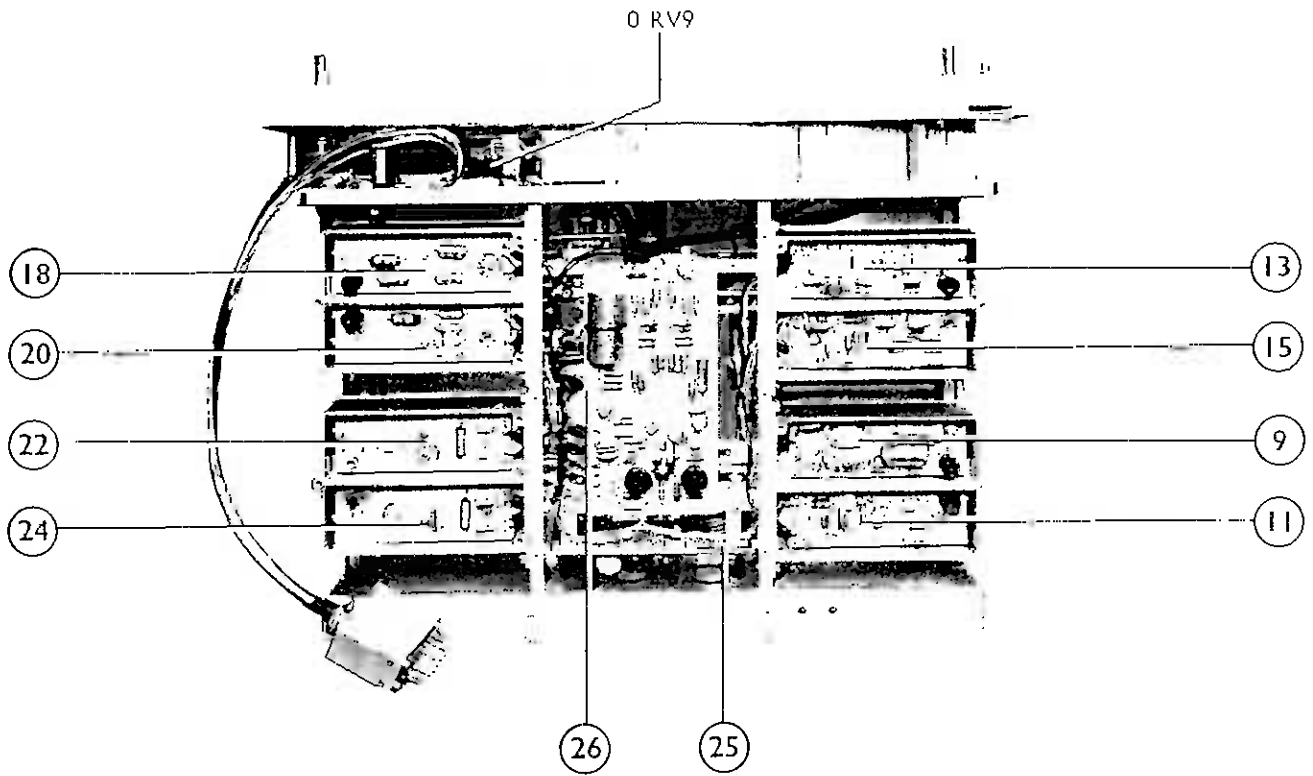

Fig. 4.3 R.F. unit with covers removed top
Oscillators and output filters; boards ⑨ to ㉔ : These boards are contained, in pairs, in cast boxes bolted on either side of the r.f. unit; oscillators on the left and output filters on the right. See Figs. 4.3 and 4.4. Access to the component side of each board may be obtained by removing the cover plate (secured by three 4 BA screws) on the outside face of the appropriate box. To get at the print side of a board remove the 6 BA screw and two 8 BA nuts that hold the board in position and swing it up and clear of the box.